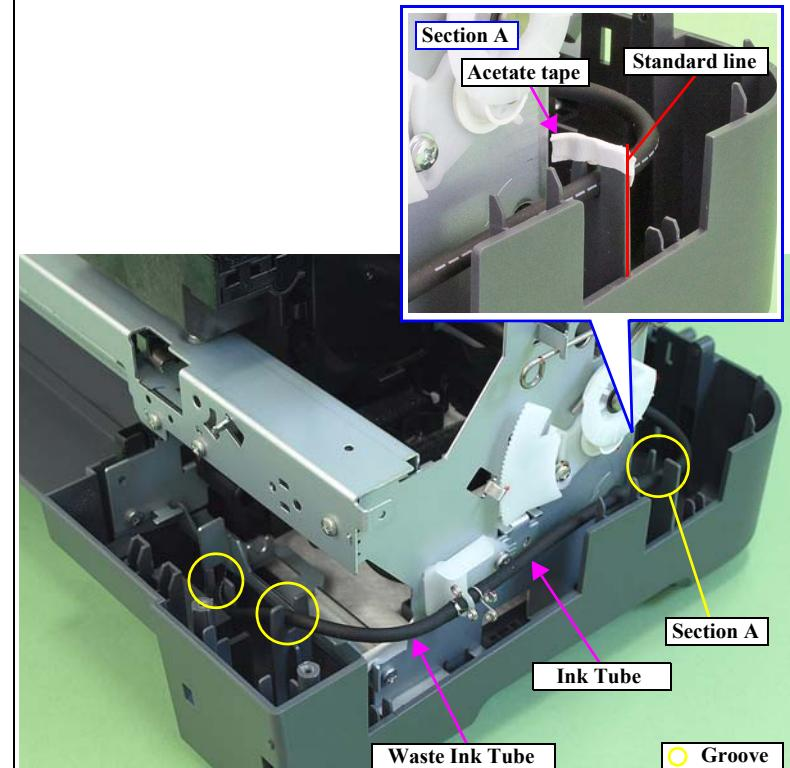

Figure 3-57. Reinstalling the Waste Ink Tube
- In Section A shown below, apply acetate tape according to the standard shown in Figure 3-57 to prevent the Waste Ink Tube from coming off after routing the tube.